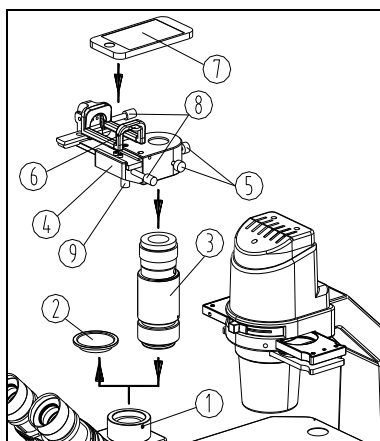

Fig. 40
(1) Loosen the lock screw ① of trinocular head, and take out the three way dust-cover ②. (See Fig. 40)
(2) Install the trinocular interface group ③ into the trinocular tube, and tighten the lock screw ①.
(3) Loosen the three lock screws ⑤ of the mobile phone connector ④, and insert the mobile phone connector ④ onto the trinocular interface group, as the direction shown in Fig. 40, and screw down the lock screw ⑤.
(4) Align the camera of mobile phone ⑦ with the hole of the mobile phone connector ④, and insert into the the mobile phone connector ④.